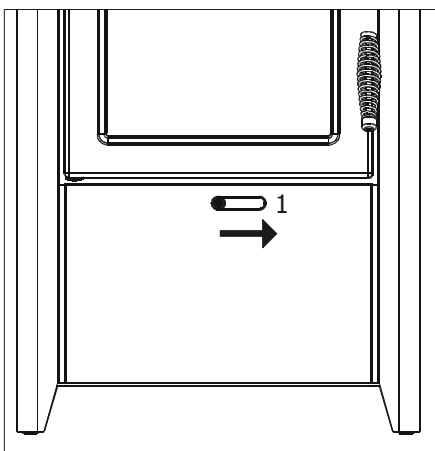

Fig.5 Primary air inlet
The lever turned towards the right (pos.1) is designed to bring a large quantity of primary air beneath the combustion chamber fire plane, to allow rapid and effective ignition of the fire (Fig.5).